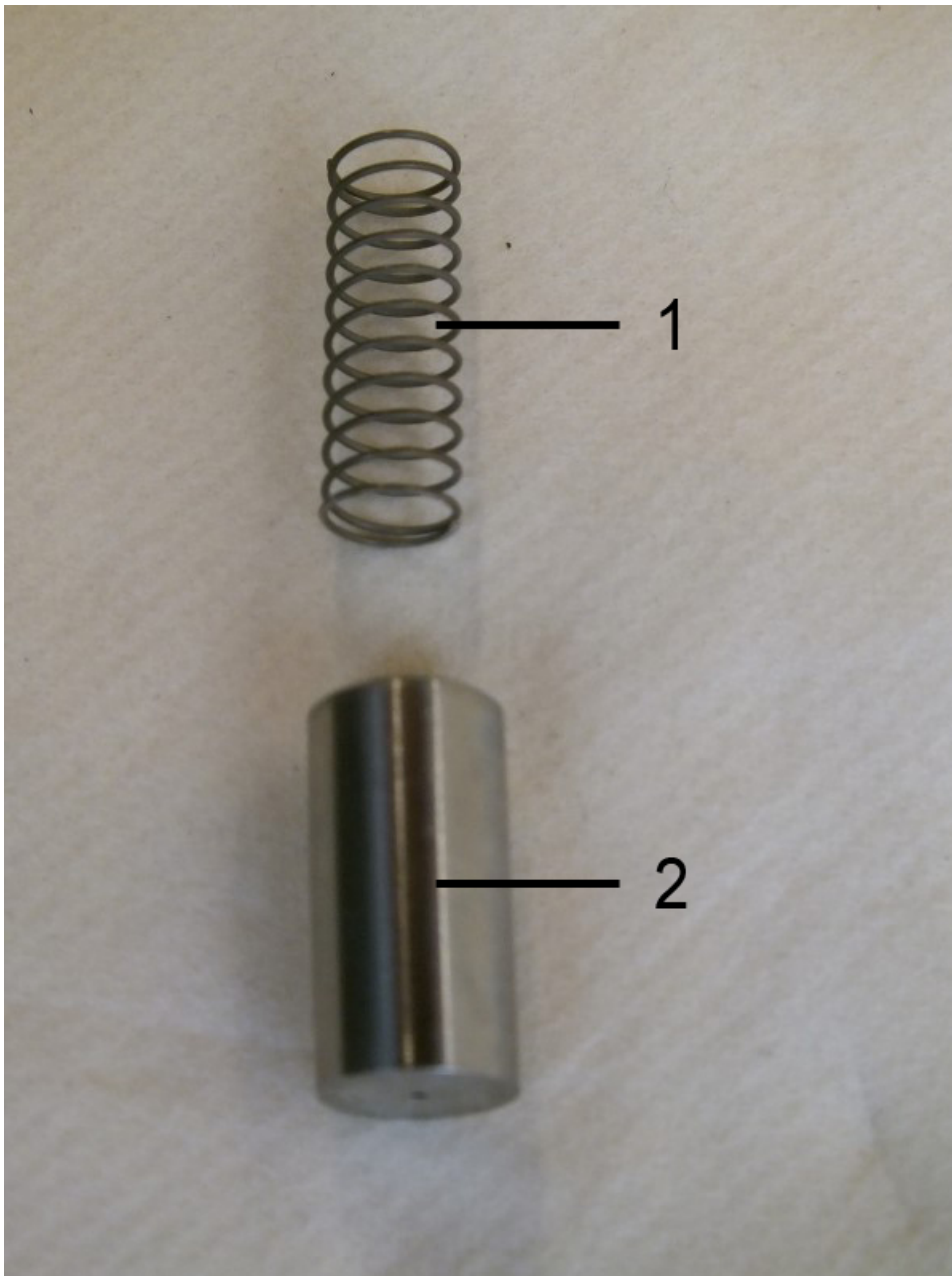

Fig. 38: Spring and float
5. ➤ The inner parts of the flow monitor consist of the spring (*Fig. 38/1*) and float (*Fig. 38/2*).